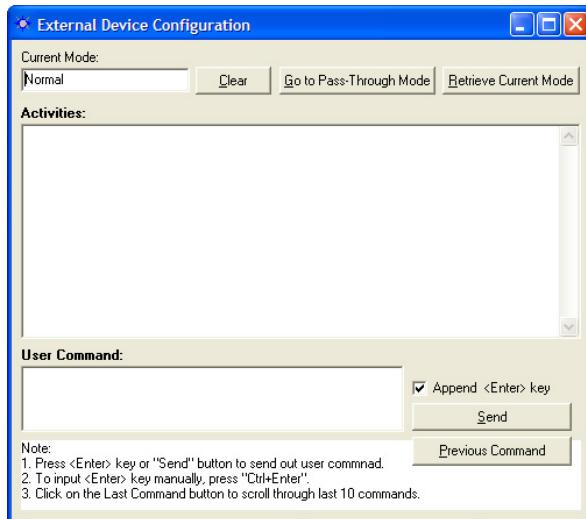

Figure 132: External Device Configuration Window
- ✓ Select *Receiver > Setup > External Radio*. The *External Device Configuration* window opens (see Figure 132).